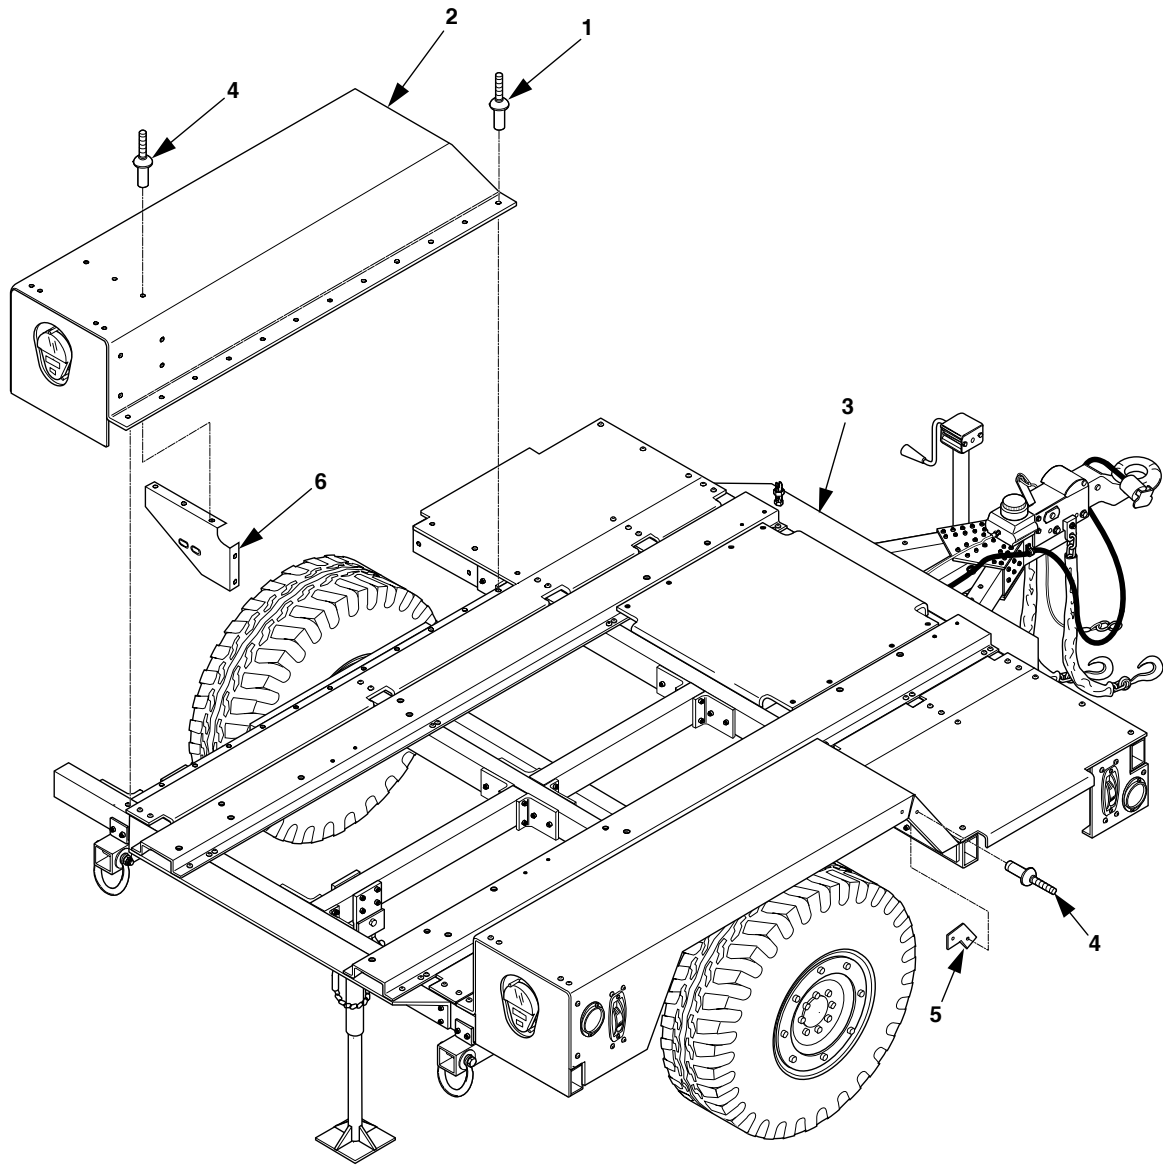

Figure 5-22. PU-797A and AN/MJQ-35A Fender Replacement.
- (1) Data plate (paragraph 4-22).
- (2) Fire extinguisher and bracket (paragraph 4-20).
- (3) Side marker light and reflector (TM 9-2330-392-14&P).
- b. Remove rivets (1, figure 5-22) and fender (2) from trailer chassis (3), using ¼" drill.
Repair of fenders consists of welding, straightening, and spot painting as required, and replacement of rivets (4), fender angle support (5), and tail light bracket (6) (Figure 5-22).
- a. Place fender (2, figure 5-22) on trailer chassis (3) and secure with rivets (1)